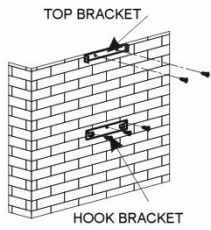

Figure 1
Place the hood main unit (no u-shaped section) against the wall at the correct position and mark off the top edge of the appliance. Remove the main unit and measure up 22mm to get the top level for the hook bracket. Place the hook bracket (hooks up) under the mark and mark in the 3 screw holes. Remove the bracket and drill three (3) Ø8mm holes 100mm apart. Insert plastic plugs into the holes and fix the hook bracket onto the wall (see figure 1) with three (3) 40mm screws. Place the hood main unit onto the hooks.